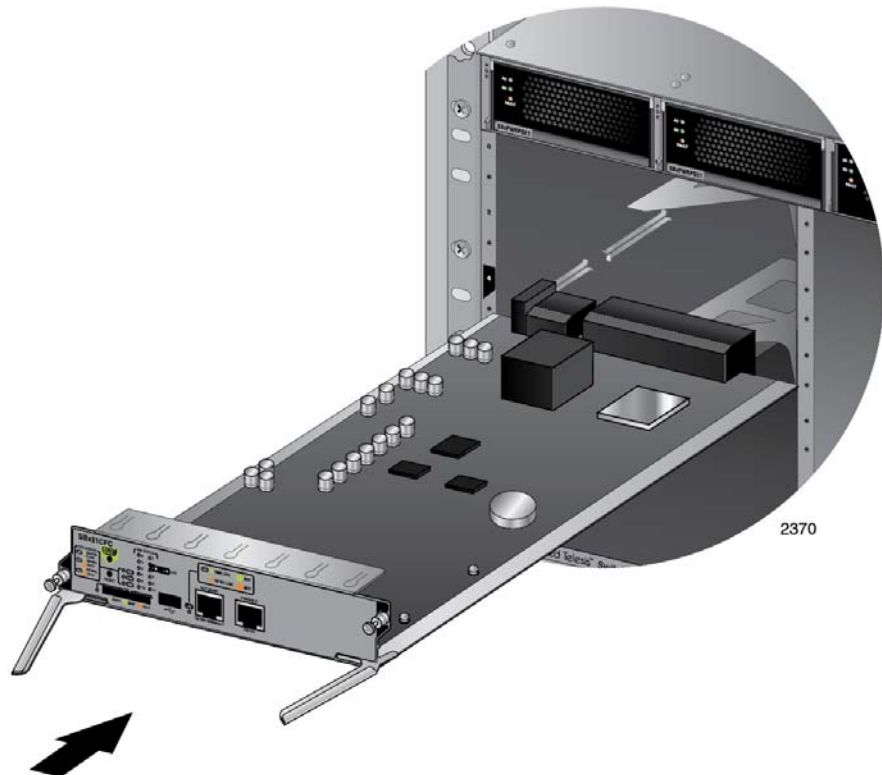

Figure 73. Aligning the AT-SBx31CFC Card in the Chassis Slot
5. Align the edges of the AT-SBx31CFC Management Fabric Card with the internal chassis card guides in slot 4 or 5 of the AT-SBx3112 Chassis. Figure 73 shows the AT-SBx31CFC Card aligned in slot 4.